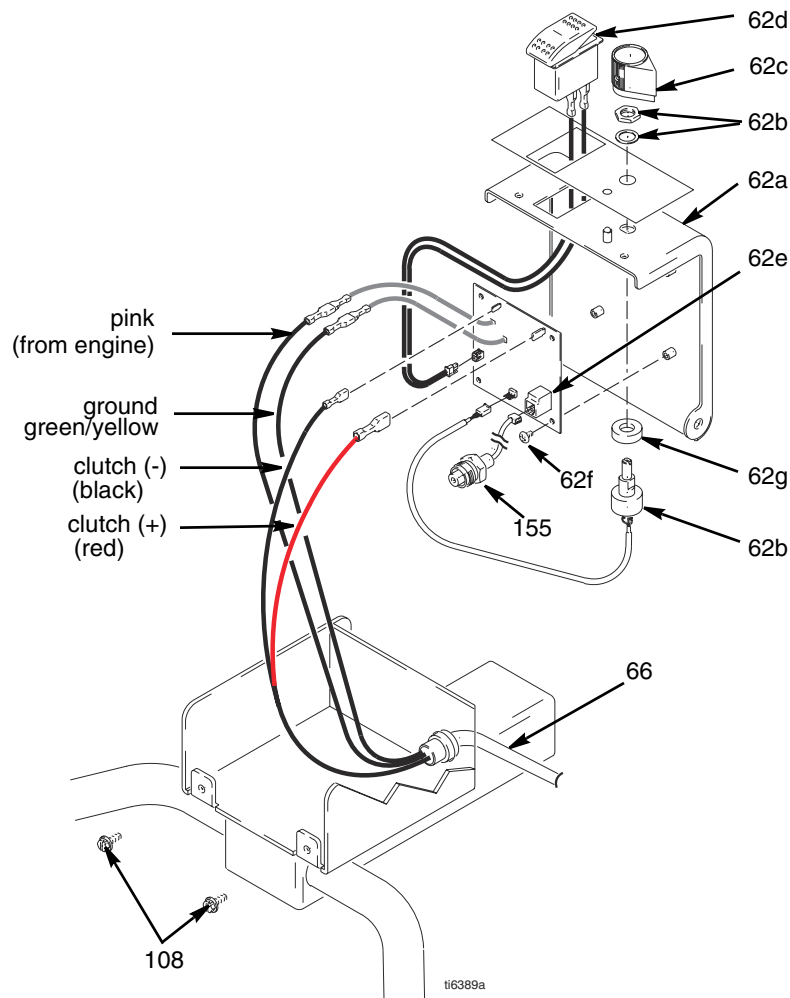

FIG. 14
2. FIG. 14. Remove two screws (108) and open cover (62a).
2. FIG. 14. Remove two screws (108) and open cover (62a)
3. Disconnect engine and ground wires from wire harness (66).
- Lead from transducer (155)
1. FIG. 14. Install control board (62e) with four screws (62f).
4. Close cover (62a) and secure with two screws (108).
3. Disconnect transducer (155) lead from control board (62e).
4. Pull transducer connector through strain relief bushing (151).
5. Remove transducer and o-ring (99) from filter housing (67).
1. FIG. 14. Install o-ring (99) and transducer (155) in filter housing (67). Torque to 35 - 45 ft-lb.
3. Connect lead (E) to control board (62e).
2. FIG. 14. Install potentiometer, shaft nut, lock washer and potentiometer knob (62c).